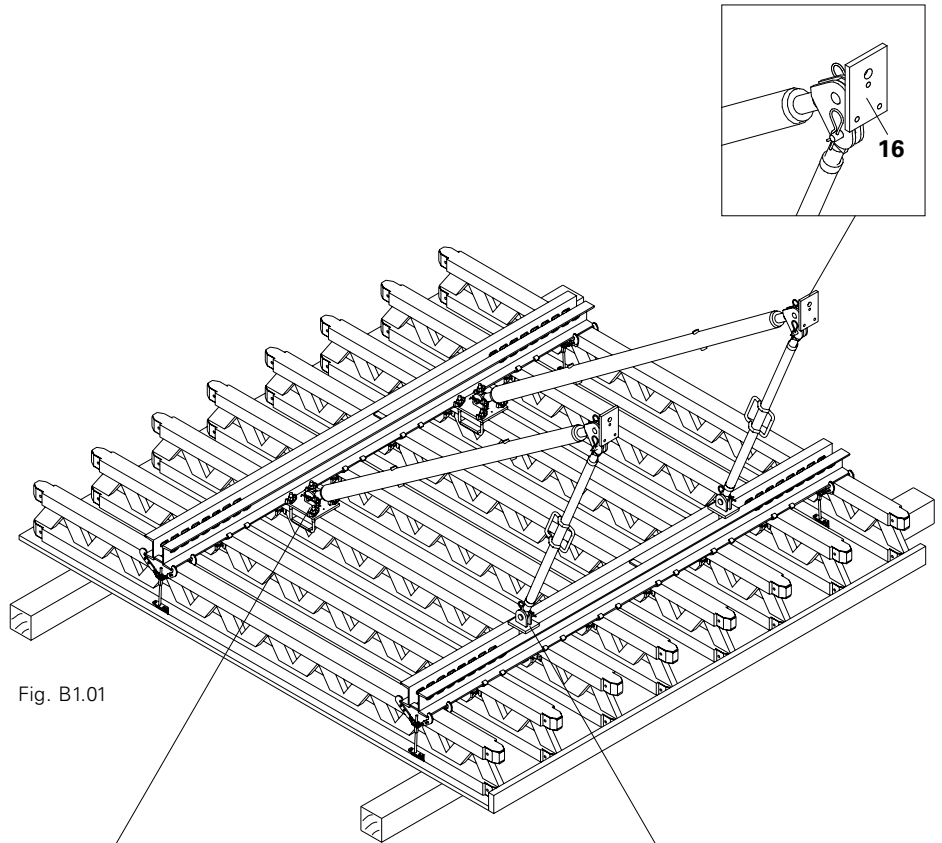

Fig. B1.01
Push-pull props and kicker braces are fixed to the girder with the girder headpiece (14) or with the wedge headpiece (15) to the steel waler. (Fig. B1.01)